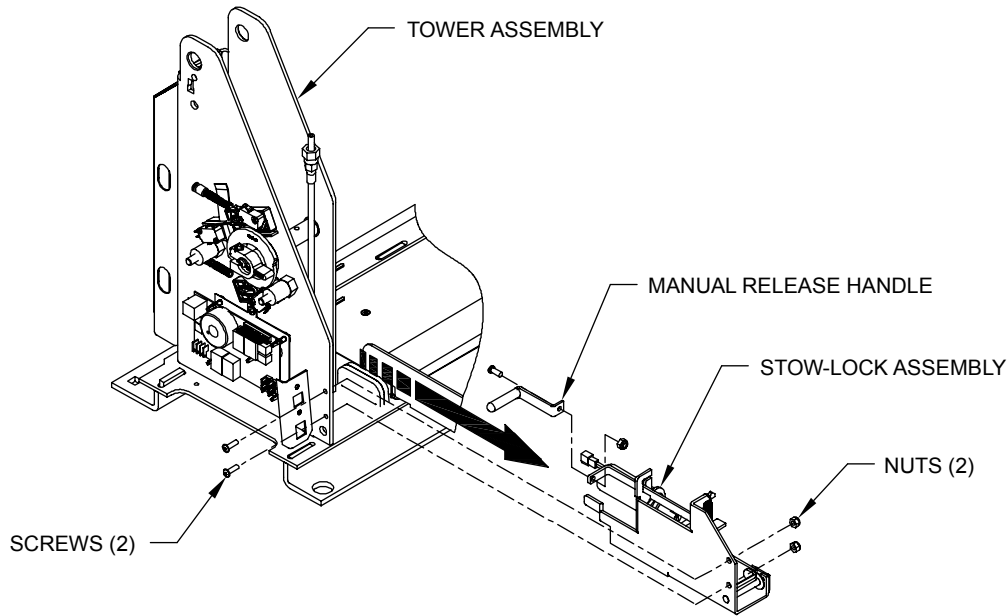

FIGURE 3-37
13. Refer to **Figure 3-37**. Remove two screws and two nuts to detach stow-lock assembly from tower assembly and retain hardware.